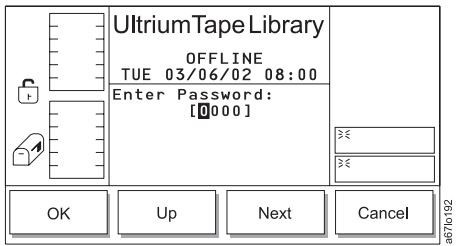

Figure 4-128. Enter Password Dialog
- Press the button below the **Yes/No** softkey until the checkmark disappears from the checkbox beside the Enable Security field. The Enter Password Dialog displays (see Figure 4-128).